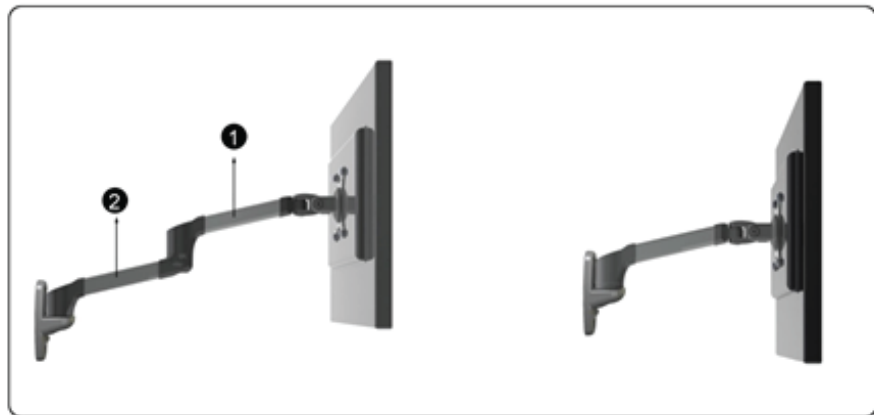

Figure 12
1. To adjust the height and extension of the Monitor Arm, remove the Extension Arm (2) from shaft follow by attaching the Articulating Arm to achieve your desired position. (See Figure 12)